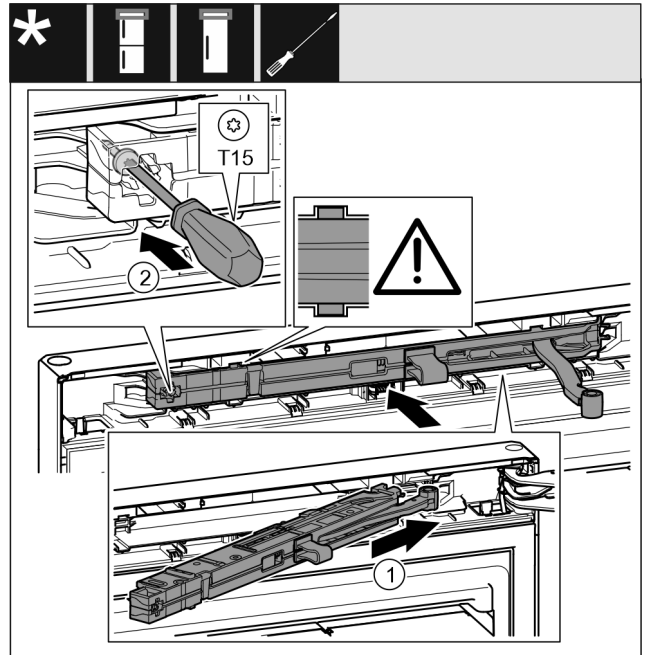

Fig. 30
- ▶ On the swap bearing block side, slide the closing damper unit Fig. 30 (1) into the recess at an angle up to the stop.
- ▶ Use a screwdriver to tighten the screw Fig. 30 (2).